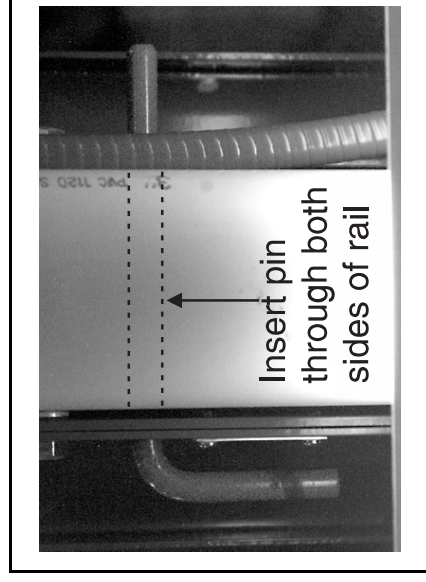

FIGURE 4 (MSSM0943AE)
2. Using a forklift, chain hoist, or other hoisting device, lift the shuttle bed(s) as close as possible to the top beam to minimize the amount and weight of chain that must be threaded through the chain path and to provide a stable working area. Install the factory supplied safety pins. Pins must be inserted completely through the side rail as shown in FIGURE 4. Wear a safety harness secured to the top beam or other strong support to prevent serious injury in the event of a fall from the top of the shuttle.